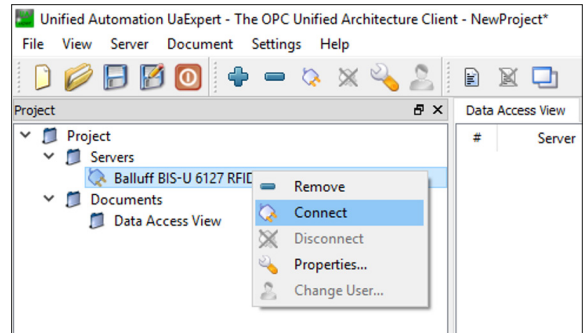

Fig. 9-10: Connection setup
11. Right-click on the server and select *CONNECT* to connect to the server (see Fig. 9-10).